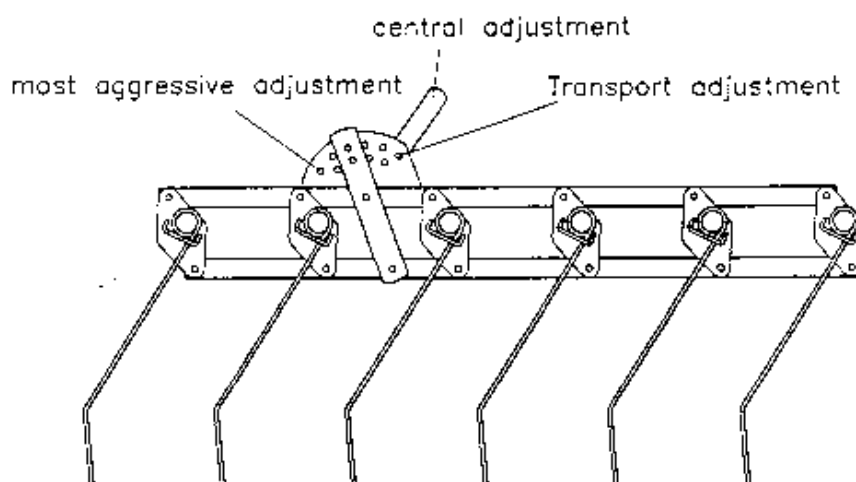

Fig. 3
2. Remove the locking pin **Ref. A Fig. 3** at the base of the adjusting handle
3. Operate the adjusting handle **Ref. B Fig. 3** to increase / decrease the aggressiveness of the tines, there are ten possible settings. The flatter adjustment will produce less vigorous weeding than the steeper adjustment.